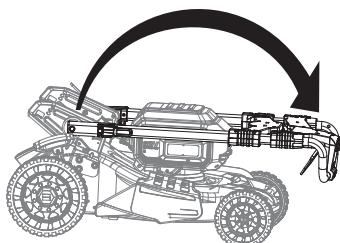

Fig.13C
5. Gently pivot the handle from the working position to the folded position until you hear a click, indicating it is locked in place (Fig. 13C).